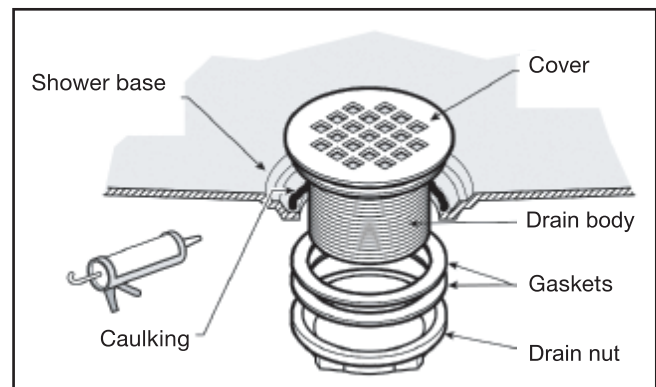

Fig. 4
- Install the shower drain (NOT INCLUDED) according to the drain installation manual (supplied with the drain). (Fig 4)